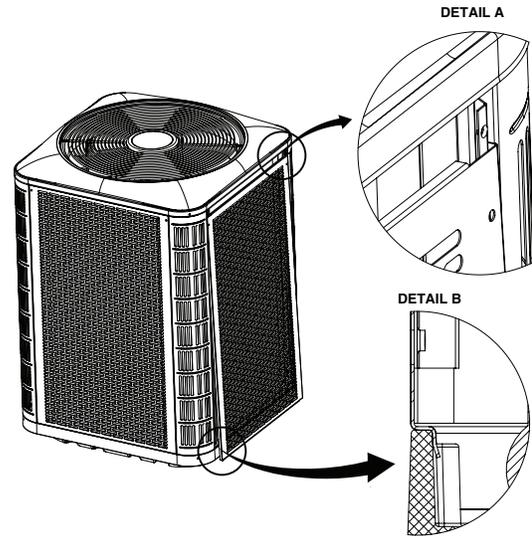

Figure 5. Panel Installation
1. Insert the top corners of side panel flanges into the corner post channels as shown in Detail A in Figure 5, (page 8).